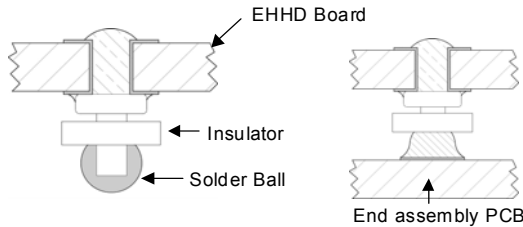

Figure 22. Column Pin Connector Before and After Reflow Soldering.
(CP) connectors. Figure 22 shows the new CP connector before and after reflow soldering onto the end-board assembly. The CP is constructed from a solid copper pin with an integral solder ball attached, which is composed of tin/lead (Sn/Pb) solder for non-Z codes, or Sn/Ag₃/Cu (SAC) solder for -Z codes.